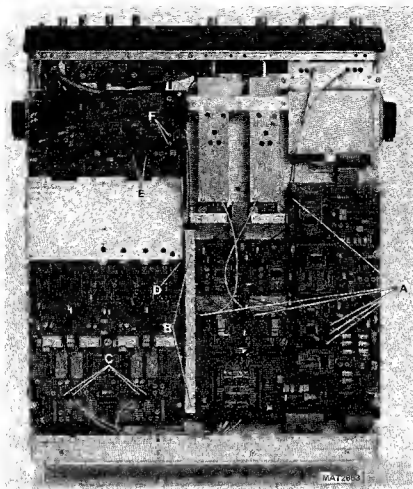

Figure 10.4 Bottom side of the oscilloscope.
The vertical signal unit can be turned up as follows (see figure 10.4):
The P2CCD unit can be turned up as follows (see figure 10.4):
- Unscrew the two screws marked with B in figure 10.4 and remove the profile.